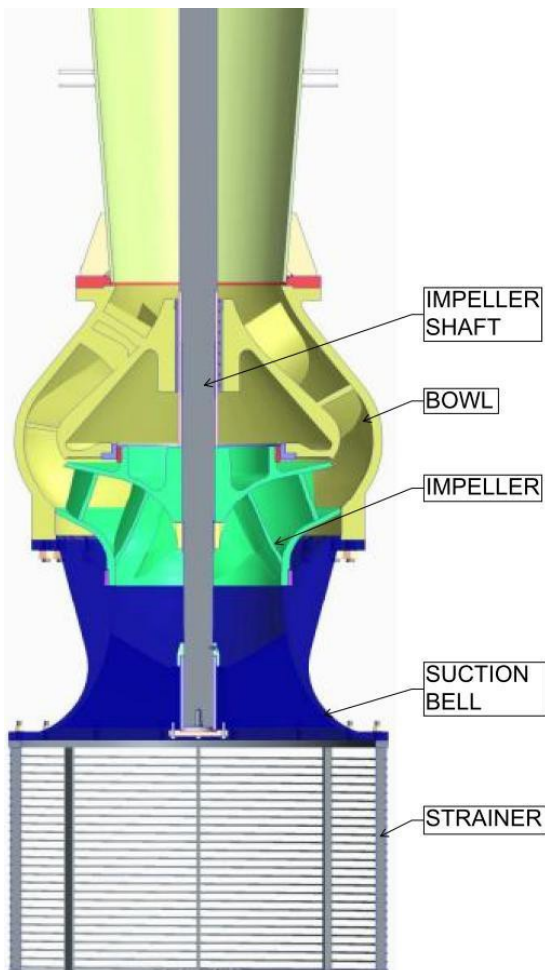

Figure 32 – Single Stage Bowl Assembly
- Single Stage where there is only one set of Bowl and Impeller in Bowl Assembly. Refer Figure 32